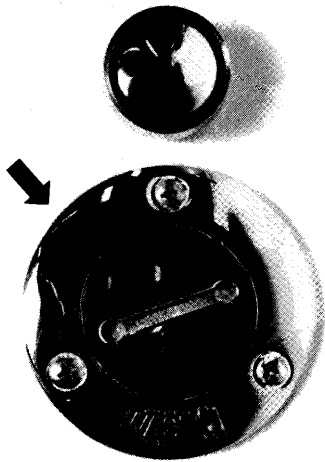

Figure 31
1. The cap to the waste deck fitting is in the covering board on the port side of the transom. See figure 31. A special key to unlock the cap is given to you. Insert the key in the slot in the cap.